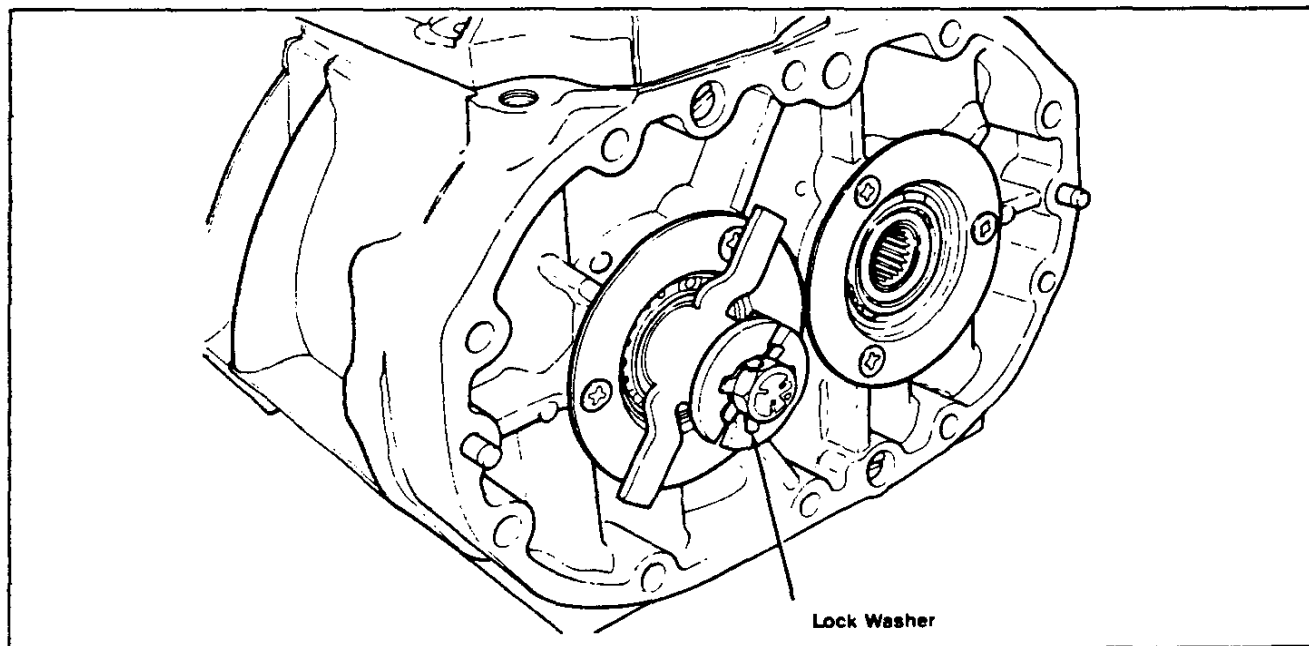

Figure 22
4. Bend one tang of the lock washer down on a flat of the drive bolt as shown in Figure 22.